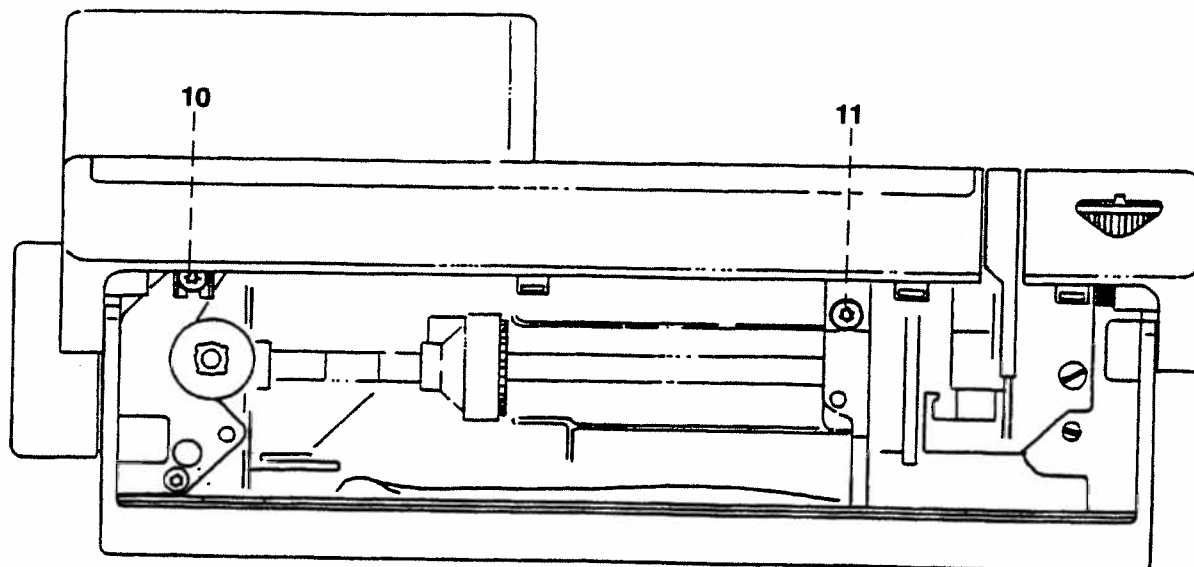

Fig. 7
- Loosen the retaining screws 10, 11, 12 and 13 on the front housing shell (fig. 7 and 8).